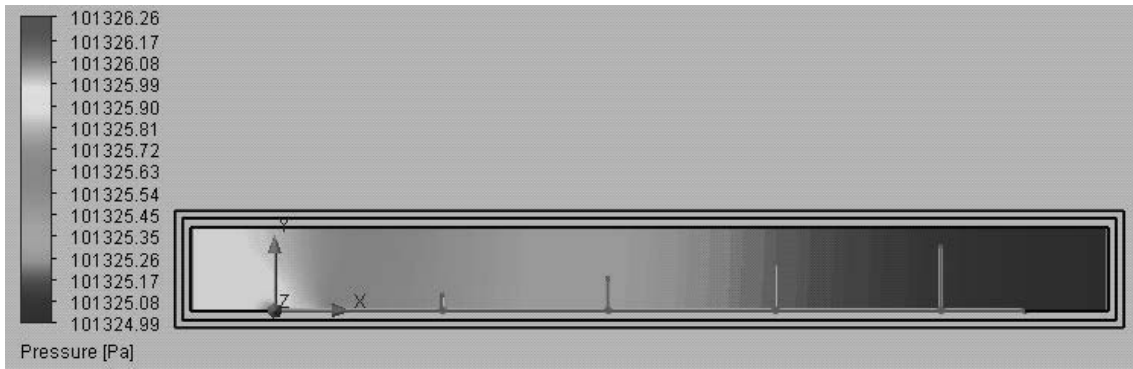

Figure 2.23a) Pressure distribution along the flat plate.
- Open the **Results** folder, right click on  Cut Plots in the  **Flow Simulation analysis tree** under **Results** and select **Insert...**. Select the **Front Plane** from the  **FeatureManager design tree**. Slide the **Number of Levels** slide bar to **255**. Select **Pressure** from the **Parameter** drop down menu. Click OK to exit the **Cut Plot** window. Figure 2.23a) shows the high pressure region close to the leading edge of the flat plate. Rename the cut plot to **Pressure**. You can get more lighting on the cut plot by selecting **Tools>>Flow Simulation>>Results>>Display>>Lighting** from the SOLIDWORKS menu. Right click on the **Pressure Cut Plot** in the **Flow Simulation analysis tree** and select **Hide**.